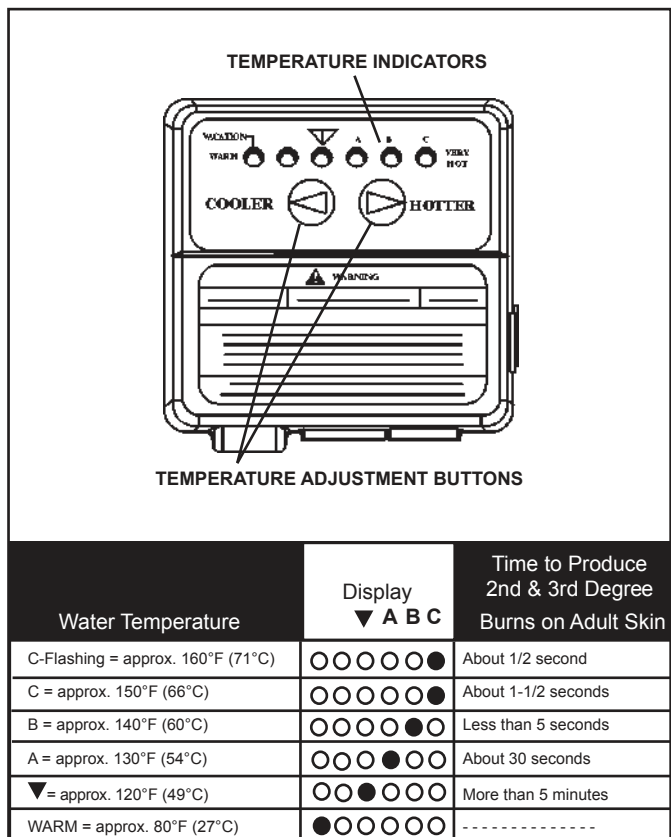

FIGURE 22.
HOT WATER CAN SCALD: Water heaters are intended to produce hot water. Water heated to a temperature which will satisfy space heating, clothes washing, dish washing, and other sanitizing needs can scald and permanently injure you upon contact. Some people are more likely to be permanently injured by hot water than others. These include the elderly, children, the infirm, or physically/mentally handicapped. If anyone using hot water from this heater fits into one of these groups or if there is a local code or state law requiring a certain temperature water at the hot water tap, then you must take special precautions. In addition to using the lowest possible temperature setting that satisfies your hot water needs, a means such as a mixing valve, should be used at the hot water taps used by these people or at the water heater. Mixing valves are available at plumbing supply or hardware stores, see Figure 2. Follow manufacturer's instructions for installation of the valves. Before changing the factory setting on the thermostat, in this manual, see Figure 22.
1. "Wake Up" the temperature indicators by holding down both "COOLER" and "HOTTER" temperature adjustment buttons at the same time for one second, see Figure 22. One or two of the temperature indicators will light up. These indicators will only remain on for 30 seconds if no further buttons are pressed. After 30 seconds the control will go back to "Sleep" mode.